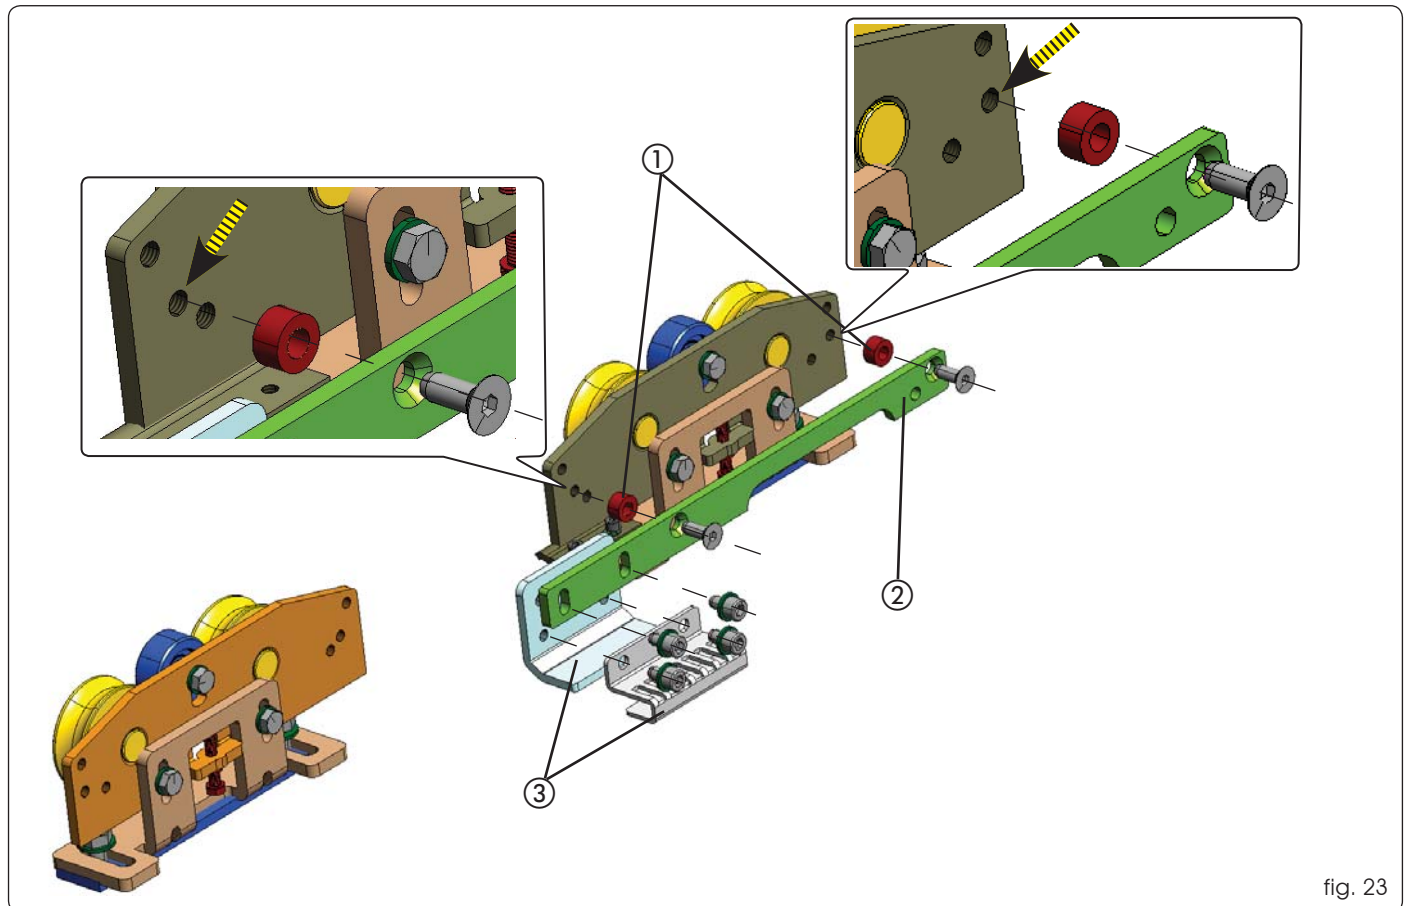

fig. 23
Assemble the supports and the bracket fig.23 Ref. ① ②.
Fit the belt coupling unit fig.23 Ref. ③.